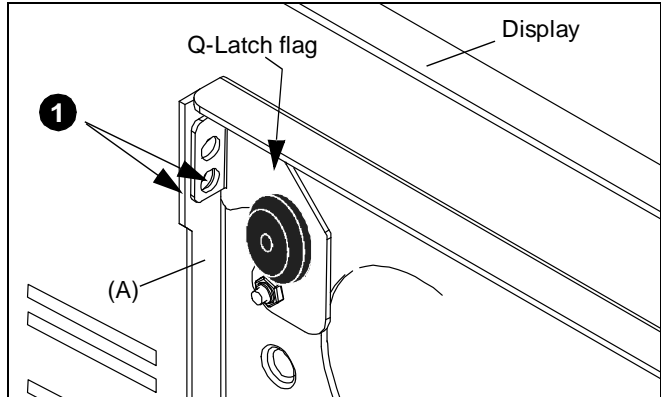

Figure 15
1. Insert padlock (not included) through lower (lined up) holes of Q-Latch flag and TPS faceplate (A). (See Figure 15)